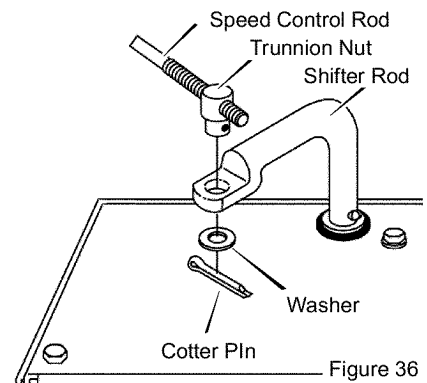

Figure 36
2. Remove **washer** and **cotter pin** that connect the **trunnion nut** to the **shifter rod**. Remove the **trunnion nut** from the **shifter rod** (see Figure 36).
4. Turn the trunnion nut until it is aligned with the mounting hole in the shifter rod (see Figure 36). When aligned, attach the trunnion nut and secure with washer and cotter pin.